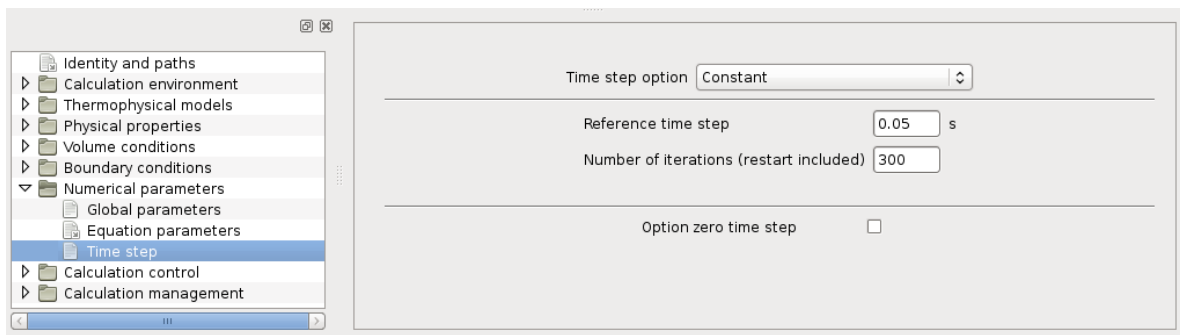

Figure 22: Time step settings
- Numerical parameters: number and type of time steps, and advanced parameters for the numerical solution of the equations, see Figure 20 to Figure 22.